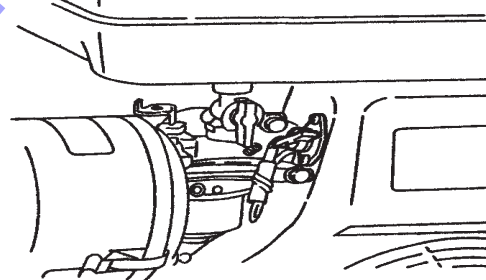

Figure 15. Engine ON/OFF Switch (OFF)
2. After the engine *cools*, turn the engine ON/OFF switch to the "OFF" position (Figure 15).